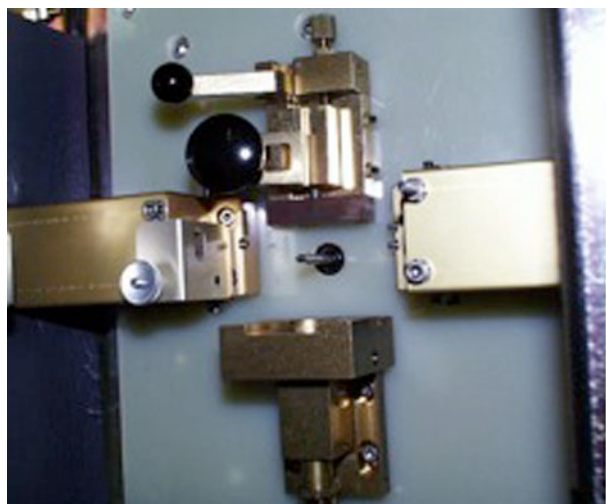

Figure 2-18, "L" Bracket Installed Covering Lens Assembly
4. Relocate the "L" bracket over the lens assembly of the routine optic located to the left of the analytical gap, Figure 2-18. Use the round knurled nut to fasten it in the new location. This will help to keep the lens assembly clean during the sulfur analysis.